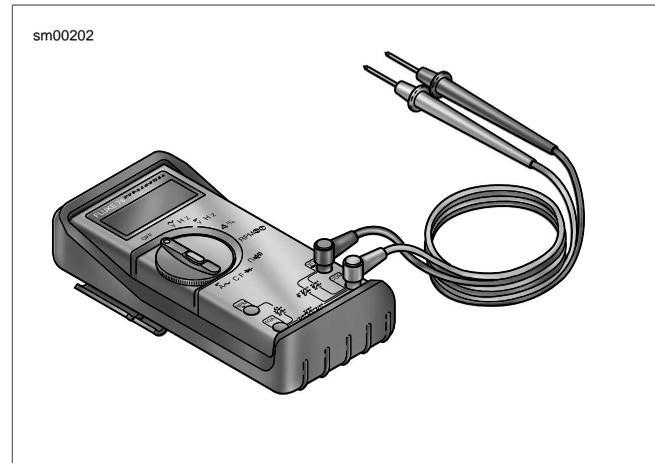

Figure 4-11. Fluke 78 Multimeter (DVOM)
1. See Figure 4-11. Connect digital volt/ohmmeter (DVOM) to wiring harness between the suspect connections. Set DVOM to read voltage changes.